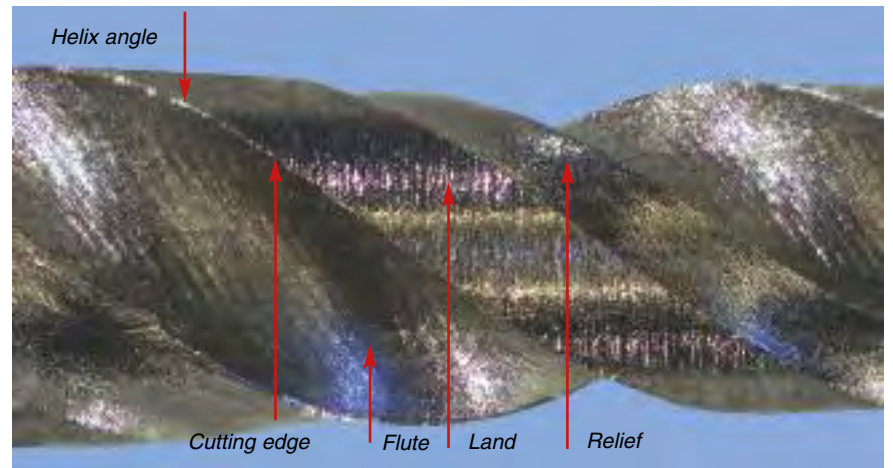

Fig. 2: Quantec file.
- **The flute:** The flute of the file is the groove in the working surface used to collect soft tissue and dentine chips removed from the wall of the canal (Fig. 2). The effectiveness of the flute depends on its depth, width, configuration and surface finish. The surface having the greatest diameter that follows the groove (defined as where the flute and land intersect), as it rotates, forms the leading (cutting) edge, or the blade of the file that forms and deflects chips from the wall of the canal and severs or snags soft tissue. Its effectiveness depends on its angle of incidence and sharpness. If there is a surface that projects axially from the central axis as far as the cutting edge, between flutes, this surface is called the land (sometimes called the marginal width).